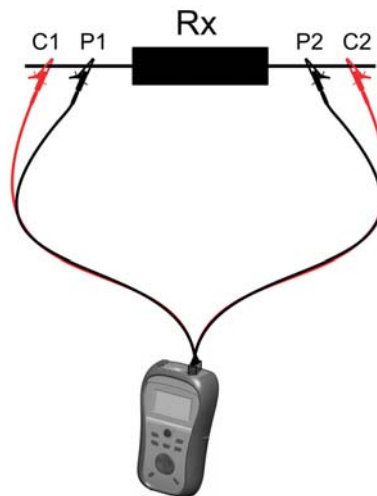

Figure 6.3 Resistance measurement connection
- Connect device under test to the instrument (see figure 6.3).